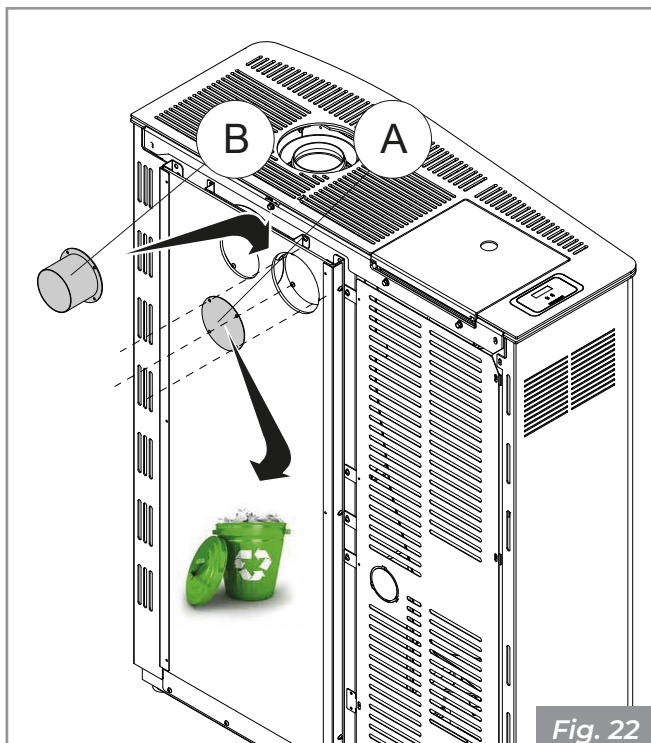

Fig. 22
In order to connect the stove to the ducted heating system, it is necessary to remove the rear cap (A) and fit the 80 mm diameter pipe (B) supplied (Fig. 22).